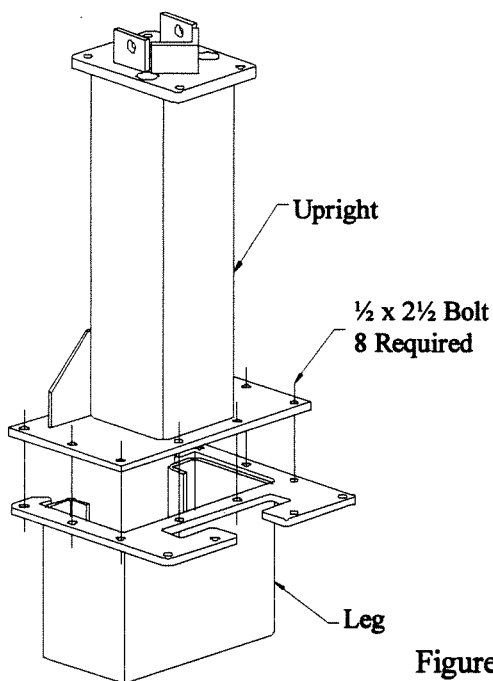

Figure 3
5. Place the legs on their backs on the floor. Attach the uprights to the legs using 1/2" diameter bolts as shown in Figure 3 on the following page..